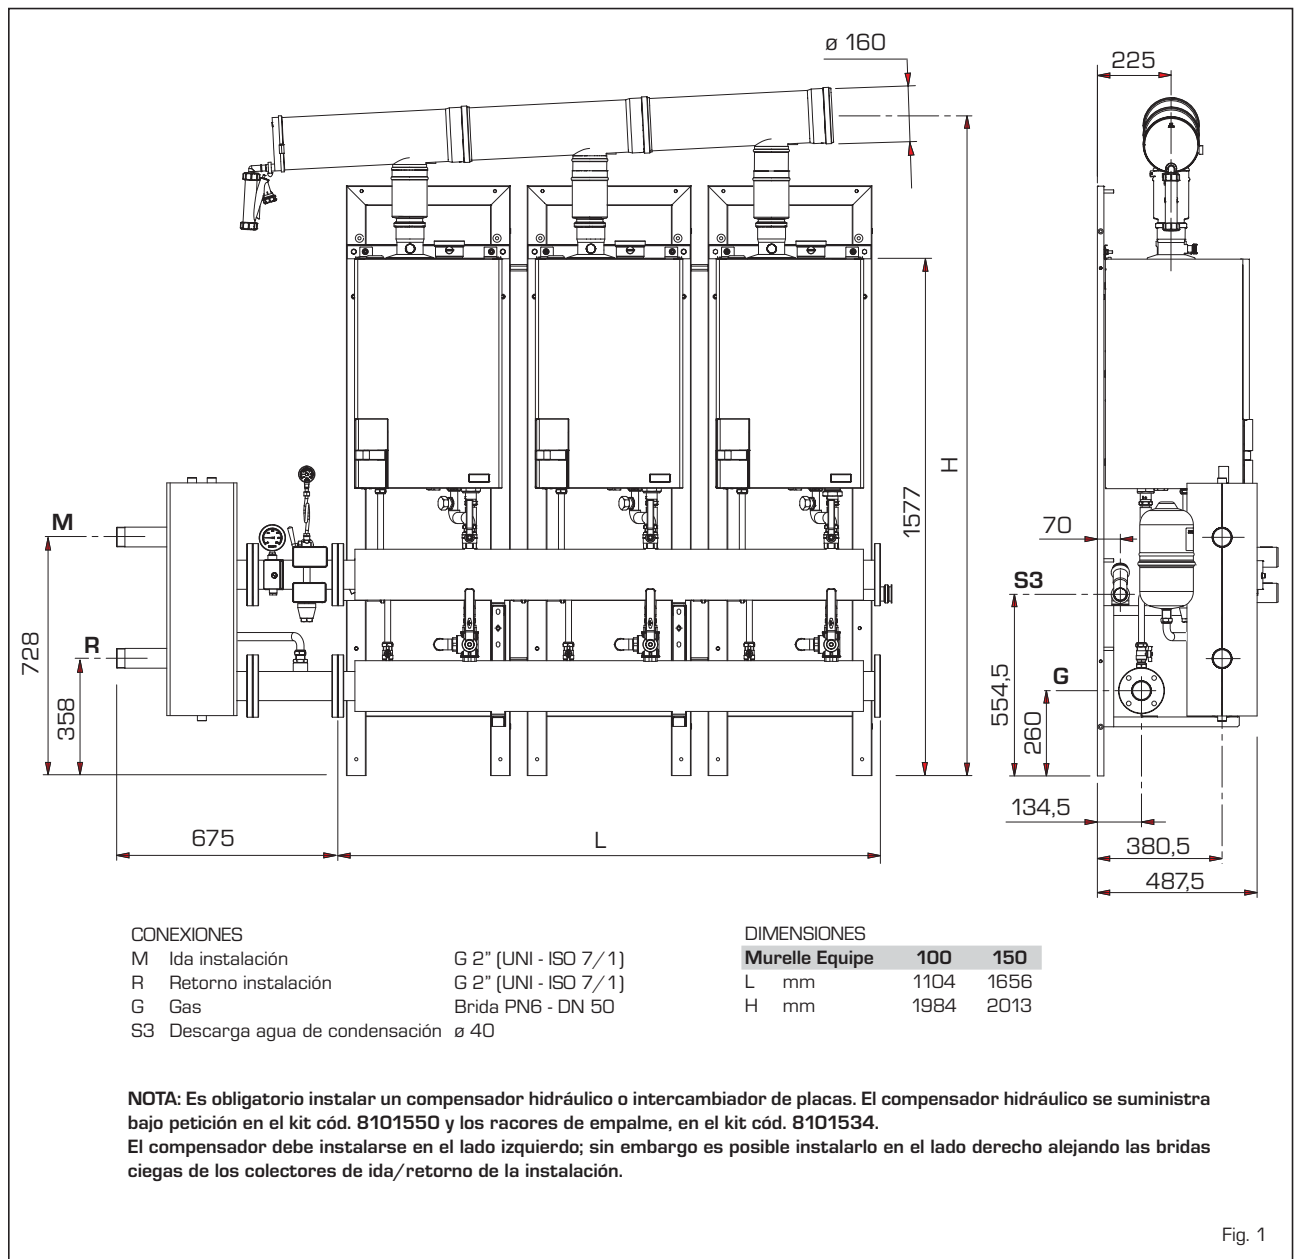

Fig. 1
1.2 DIMENSIONES Y EMPALMES (fig. 1)